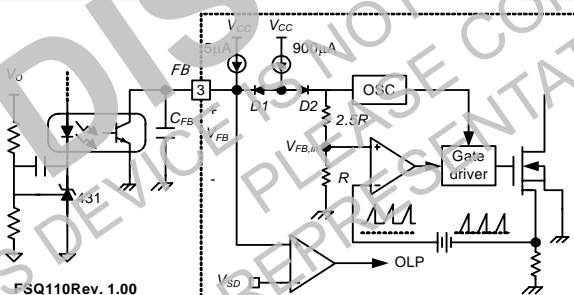

Figure 14. Pulse Width Modulation Circuit
2. Feedback Control: The FSQ110 employs current-mode control as shown in Figure 14. An opto-coupler (such as the H11A817A) and shunt regulator (such as the KA431) are typically used to implement the feedback network. Comparing the feedback voltage with the voltage across the R_{sense} resistor of SenseFET, plus an offset voltage, makes it possible to control the switching duty cycle. When the shunt regulator reference pin voltage exceeds the internal reference voltage of 2.5V, the opto-coupler LED current increases, the feedback voltage V_{FB} is pulled down and thereby reduces the duty cycle. This typically happens when the input voltage increases or the output load decreases.
4.3 Over-Voltage Protection (OVP): In the event of a malfunction in the secondary-side feedback circuit or an open-feedback loop caused by a soldering defect, the current through the opto-coupler transistor becomes almost zero (see Figure 14). V_{FB} climbs up in a similar manner to the overload situation, forcing the preset maximum current to be supplied to the SMPS until the overload protection is activated. Because excess energy is provided to the output, the output voltage may exceed the rated voltage before the overload protection is activated, resulting in the breakdown of the devices in the secondary side. To prevent this situation, an Over-Voltage Protection (OVP) circuit is employed. In general, V_{CC} is proportional to the output voltage and the FPS uses V_{CC} instead of directly monitoring the output voltage. If V_{CC} exceeds 19V, the OVP circuit is activated, resulting in termination of the switching operation. To avoid undesired activation of OVP during normal operation, V_{CC} should be designed to be below 19V.